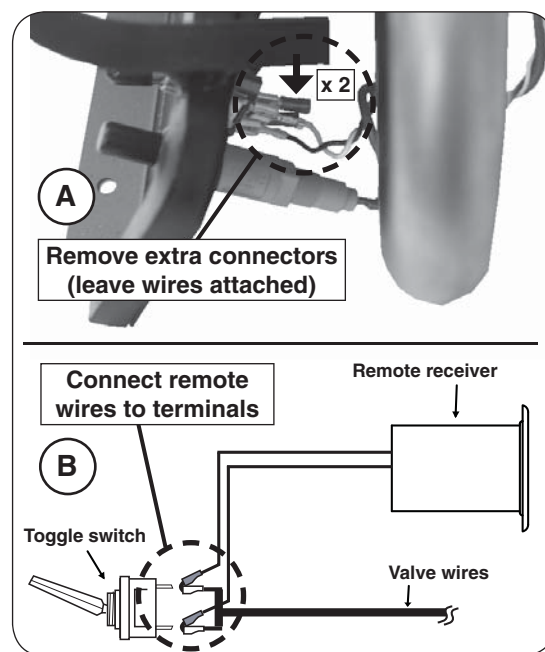

Fig. 16-3 Connect remote receiver
2. Locate the toggle switch on the right front of the burner. Remove and discard the two extra connectors on the terminals. See Fig 16-3, A.
3. Locate the wires coming off of the remote receiver, and connect them to the two now exposed terminals on the toggle switch / valve wires (see Fig. 16-3, B).